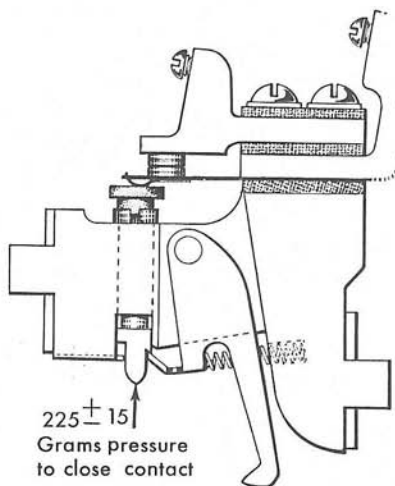

Figure 13. Latching Plunger Circuit Breaker, Adjustment 4
4. Check to be sure that the plunger does not bind (Figure 13). The design of the split bushing is such that the coil spring spreads the bushing and frame, increasing the pressure required to close the contact from 160 grams (pressure required to compress the spring) to 225 grams (approximately 8 oz.). This friction is used to dampen the rebound when the contact closes. Check to be sure that a maximum of 240 grams applied to the plunger closes the contact.